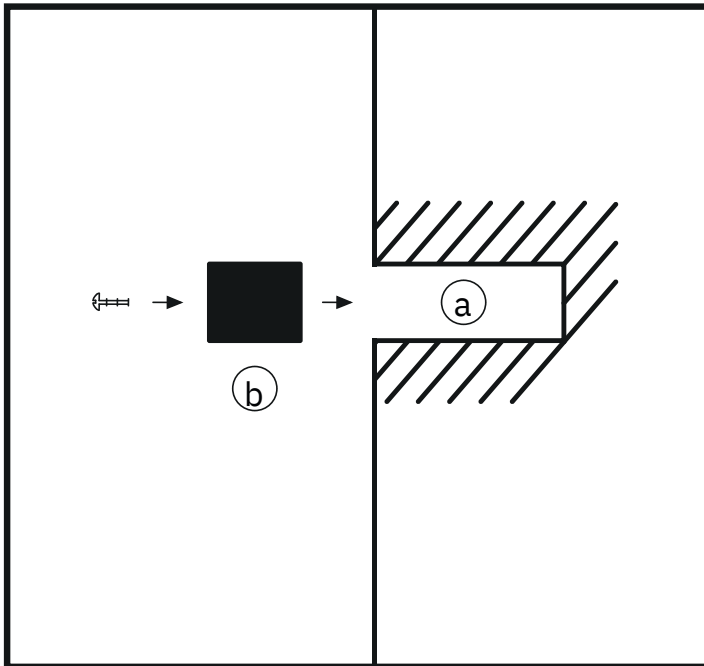
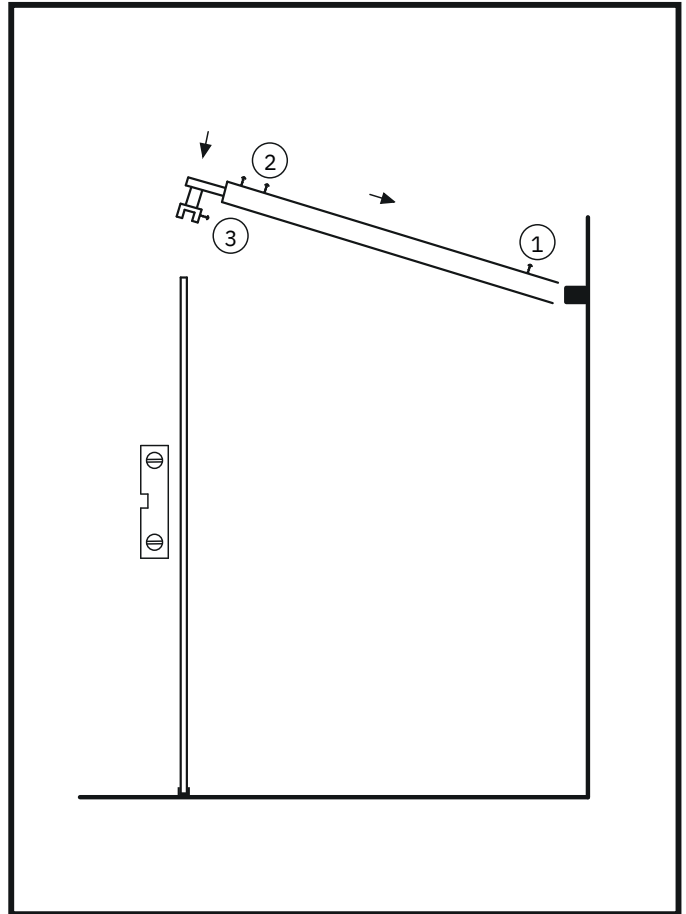

Figure 6
Figure 7
13. Install the gaskets supplied with the tubes between the telescopic tube mounting clamps (3) (Figure 7) (the parts that attach to the glass) to prevent the glass from coming into contact with the metal.
15. Mark the wall where the mounting holes (a) need to be drilled (Figure 6) and remove the telescopic tubes.
16. Drill the dowel holes (a) at the marked location, clean the holes of any dust and insert the dowels. (Figure 6)
17. Unscrew the screw (1) on the telescopic tubes (Figure 7) and remove the wall-mounting piece (b) (Figure 6).
18. Install the parts (b) into the holes (a) previously drilled in the wall and secure with screws. (Figure 6)
19. Take the telescopic tubes and carefully install the wall mount (b) inside the telescopic tube and rest the other end (3) on the planned location, on the glass. (Figure 7)
20. Tighten and secure screw (1). NB! The mounting point must be oriented upwards!
21. Secure the telescopic mount to the glass with screw (3). NB! It is important that you have previously installed the gaskets included in the set between part (3) Metal parts must not come into contact with the glass, as this may cause the glass to break.
22. Adjust the glass using a level and secure the telescopic tube with screws (2), with their heads facing upwards.